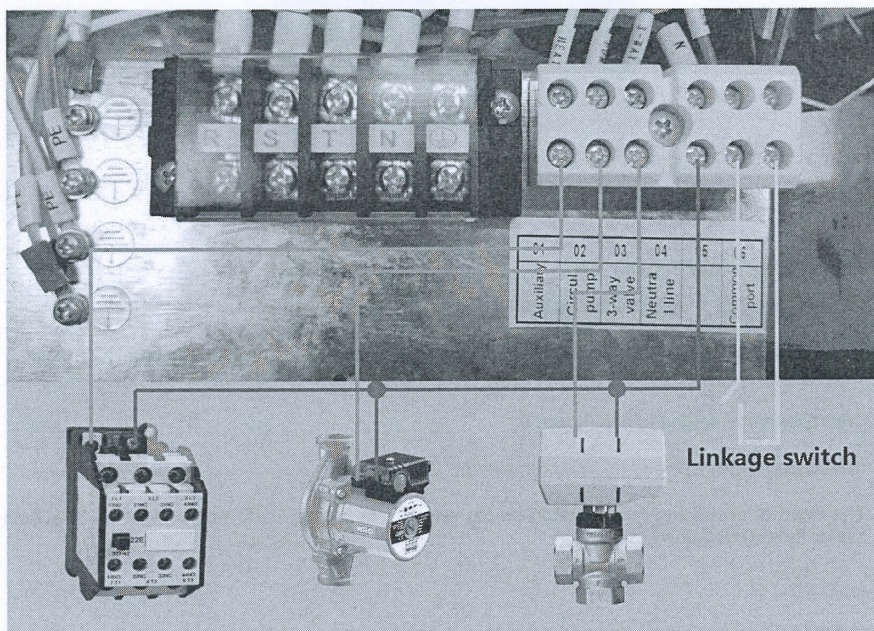

Figure 3
- 2) Electrical wiring diagram to see Figure 3. ( If do not need to install auxiliary heating, DO not connect point 1,4 AC contactor)